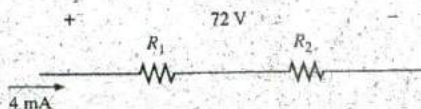

FIG. 5.115
- *32. Design the voltage divider in Fig. 5.115 such that $V_{R_1} = 1/5 V_{R_2}$. That is, find R_1 and R_2 .